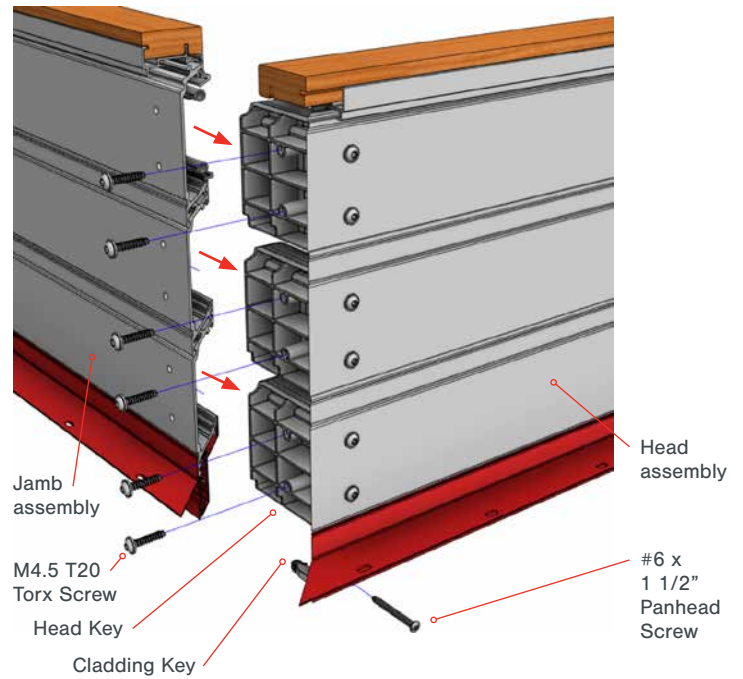

Fig 17
- Ensure the Head is fit tightly to the Jambs then fasten through the Jambs into the Head Keys using the M4.5 T20 Torx screws provided (Fig 17.)